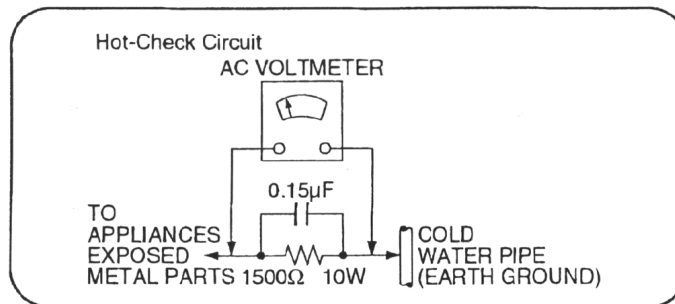

Figure 1
1.1.2. Leakage Current Hot Check (See Figure 1)
2. Connect a $1.5k\Omega$, 10 watts resistor, in parallel with a $0.15\mu F$ capacitors, between each exposed metallic part on the set and a good earth ground such as a water pipe, as shown in Figure 1.